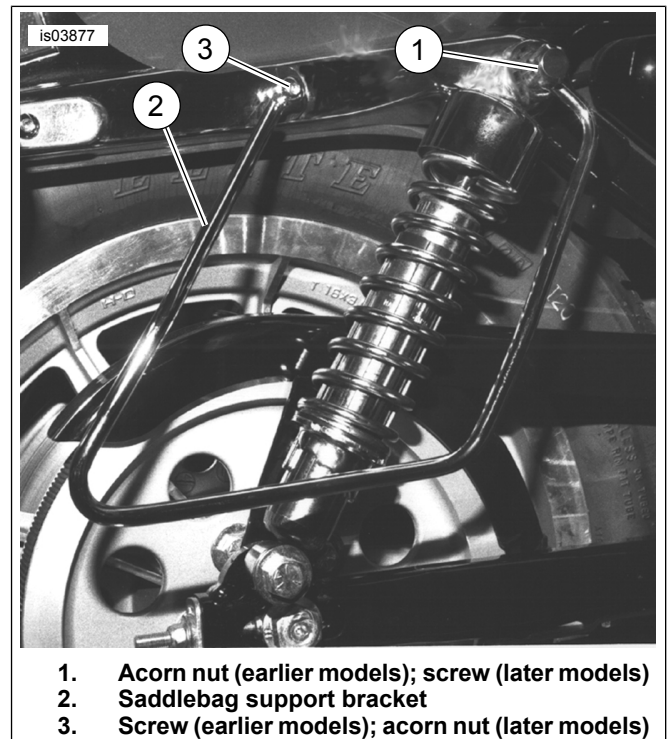

Figure 2. Soft Saddlebag Support Bracket Installation
3. See Figure 2. Remove the frontmost O. E. button head bolt and nut (at 3) from the fender support cover. Discard the bolt, but retain the nut for later installation.
3. See Figure 2. Remove the frontmost O. E. button head bolt and nut (at 3) from the fender support cover. **On 2000 through 2003 models**, discard the bolt, but retain the nut for later installation. **On 2004 and later models EXCEPT XL 1200N**, discard the bolt and nut. **On XL 1200N models**, discard the bolt, but retain the nut for later installation.